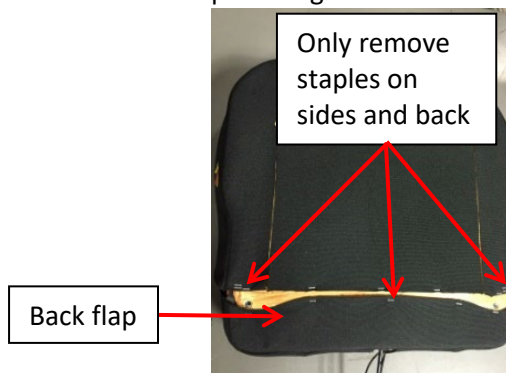
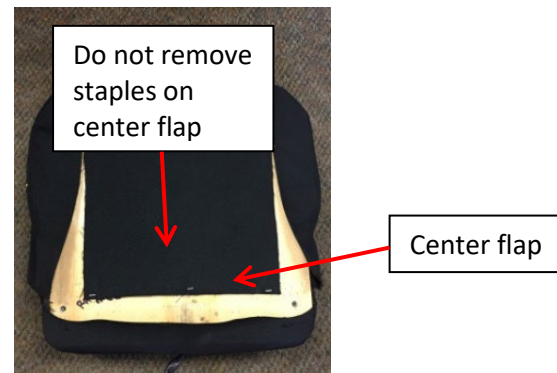

Figure 10
Figure 11
6. Remove staples from both the rearmost flap and rear side sections only. See Figure 10. DO NOT remove the staples from the main center flap. See Figure 11.